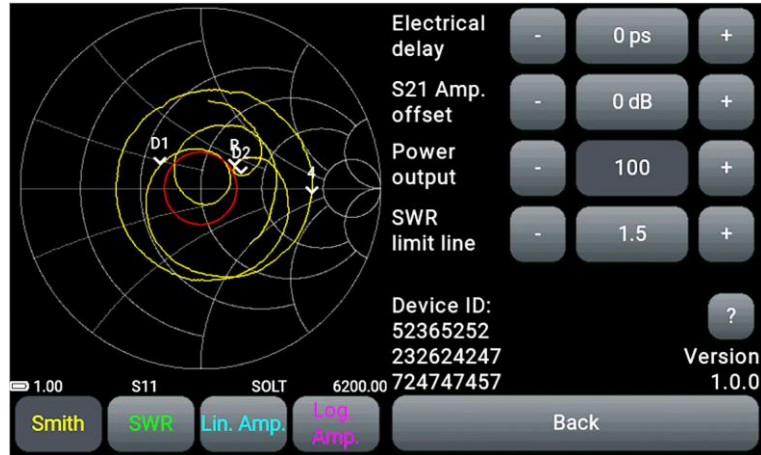

Figure 9.10 - Information about the device
9.5.1. Enter the **Device** section of the main menu (Figure 9.10).
9.6.1. Enter the **Device** section of the main menu (Figure 9.10).
9.7.2. Enter the **Device** section of the main menu (Figure 9.10).
9.8.1. Enter the **Device** section of the main menu (Figure 9.10).
9.9.1. Enter the **Device** section of the main menu (Figure 9.10).